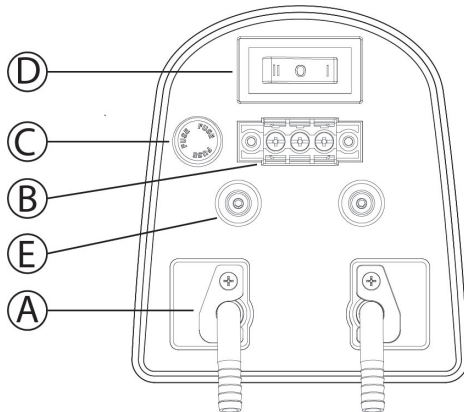

figure 1
1 Loosen the fitting lockers (A) located on the rear cover of each bowl equipped with Autofill Device and connect the remote fill system using a 1/4" fitting suitable to the purpose. Tighten the fitting lockers (see figure 1).